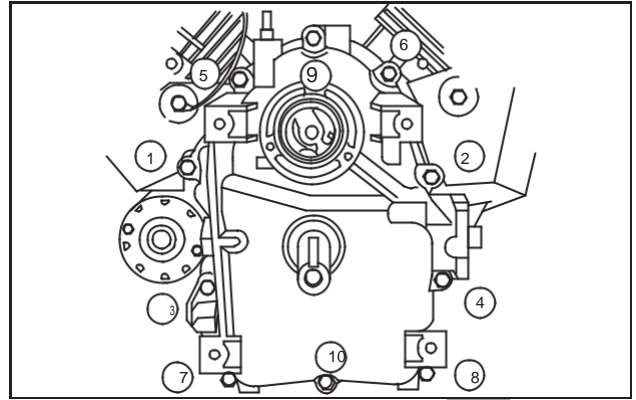

Fig. 6 - Installing Crankcase Cover
- a. Torque screws in sequence shown to 200 in. lbs. (23.0 Nm), Fig. 6.